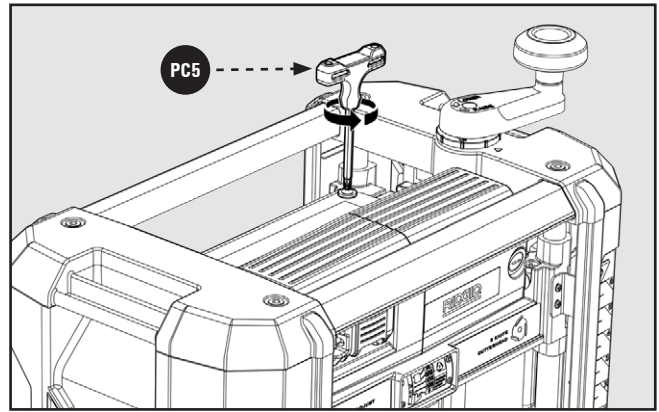

FIGURE 5
2. Using the wrench provided, remove the two M6 x 20mm Torx screws and flat washers **PC6** that secure the dust deflector. Save these for step 4. (See Figures 5 & 6)